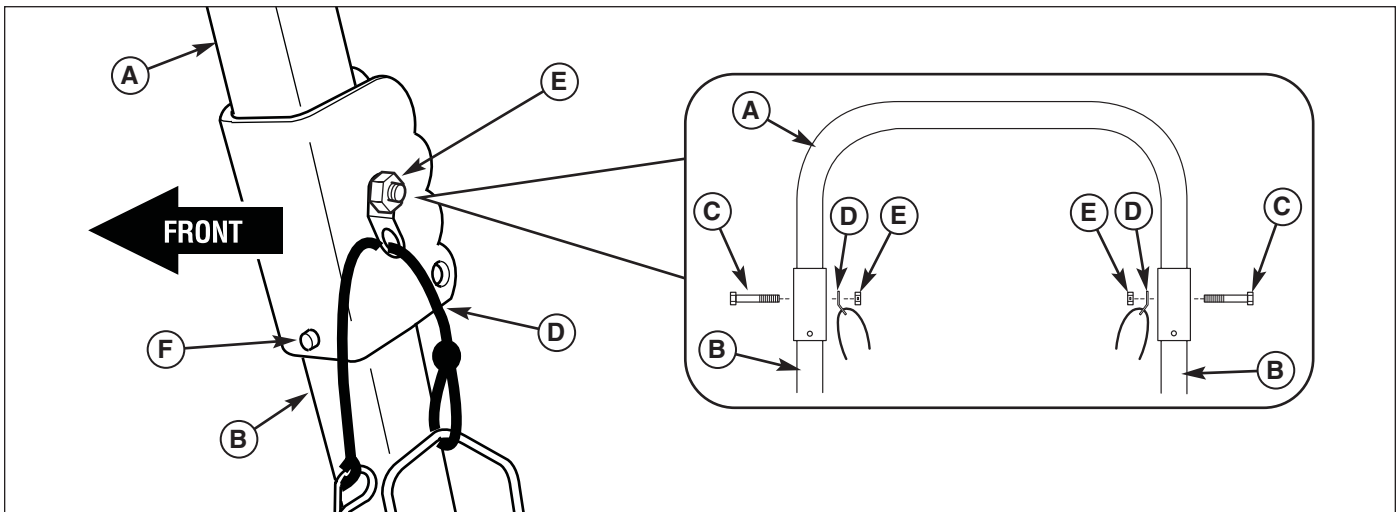

Figure 10. Install Top Loop (Right Side Shown)
5. Install the top loop (A, Figure 10) onto the upright tubes (B). From the outside, install the 1/2-3" bolt (C) through the top loop and upright tube, then through the retainer pin assembly (D), as shown in Figure 5E. Loosely install the 1/2" side lock nut on the bolts. Repeat this process for the other side.
7. Tighten the 1/2"-3 bolts and hex side lock nuts (C & E) securing the top loop (A) to the upright tubes (B). Do not over-tighten. The top loop should pivot snugly with the retainer pins removed.
8. Raise the top loop (A) until the rubber stops (F) contact the upright tubes.